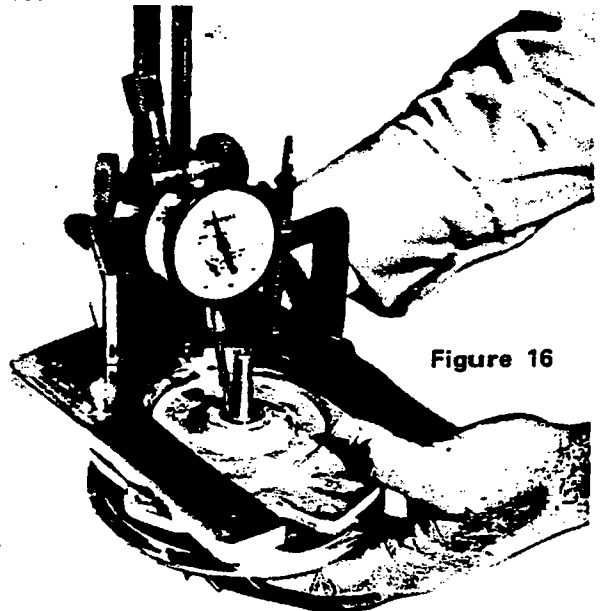

Figure 16
1. Center the mating ring over the bore of the bearing housing. Install the turbine wheel and shaft without the turbine-end seal ring (4) so that the shaft extends through the bearing as shown in Fig. 16.
2. Install the shaft sleeve (12) on the shaft. Position the dial indicator on the bearing housing so that the indicator point engages the top of the shaft sleeve as shown in Fig. 16.